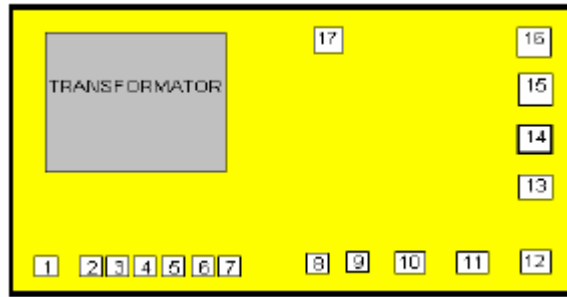

Figure 3: 4 to 20 mA Output Module Electrical connections
2. Locate the power supply connection, number 1 in Figure 3.